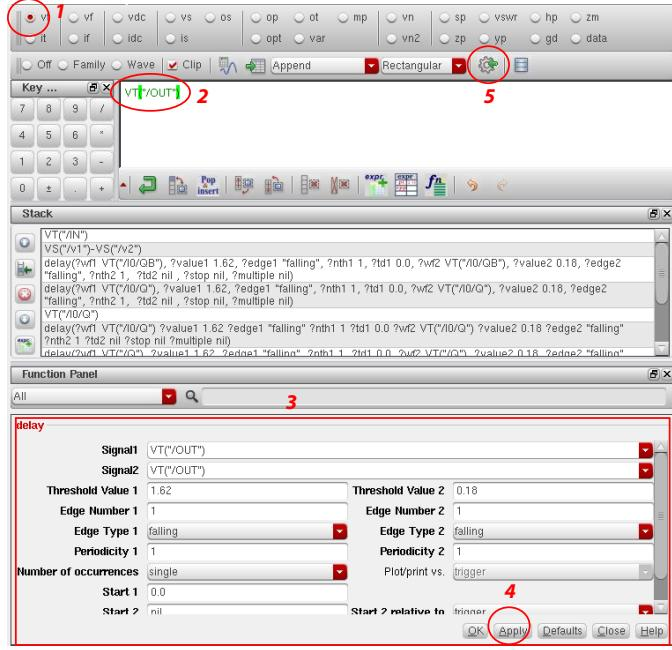

Figure 25: ADE calculator setup.
5. Define the delay measurements. To measure some stuff from the curves (falling time, propagation delay, maximum voltage etc.), we will use the Cadence calculator. To do so, first open the Calculator (in the ADE window: *Tools -> Calculator...*). The calculator window should appear, as shown in Fig. 25. The Calculator is a very powerful tool which can help you define expressions and waveforms, plot circuit time or frequency responses, perform useful transforms, signal post-processing and/or analysis. It has many pre-defined mathematical and processing functions and also allows you to define your own functions.
- Select the appropriate signal you want to measure from (in this case, we want to measure the rising and falling time so select the output signal of your inverter): click on **vt** and select the signal on the schematic (step 1 in Fig. 25).
- Copy/paste the name of the signal in the Signal 1 and signal 2 fields of the calculator (step 2 in Fig. 25). Here, signal 1 and signal 2 are the same since we are measuring the falling delay which is on a single signal.
- Specify the other fields as in the picture (step 3 in Fig. 25). In this example, we show how to measure the falling delay (although the rising delay is obtained similarly). Threshold Value 1 is the value for which the time will be measured for the first point. If you want to measure the falling delay, it is 90% of V_{DD} so 1.62V. In the same manner, Threshold Value 2 is the value for which the time will be measured for the second point, so it is 10% of V_{DD} so 0.18V. Both Edge Types are falling since you are measuring a falling delay.